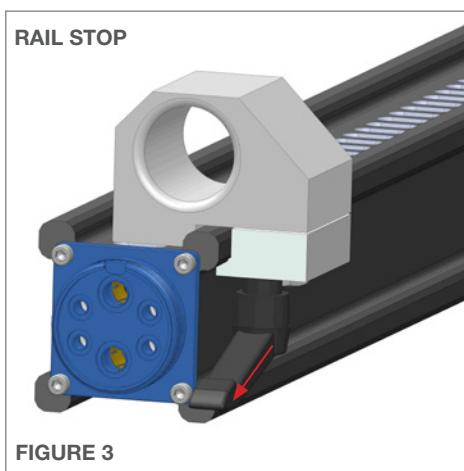

FIGURE 3
3. Orient the Release Levers away from the Carriage Assembly. **(Figure 3, 4)**
2. Fasten High Pressure Hose to BCK-20K Barracuda (**Figure 3**). The hose end is a 9/16" medium pressure connection, with a modified gland nut and standard collar.